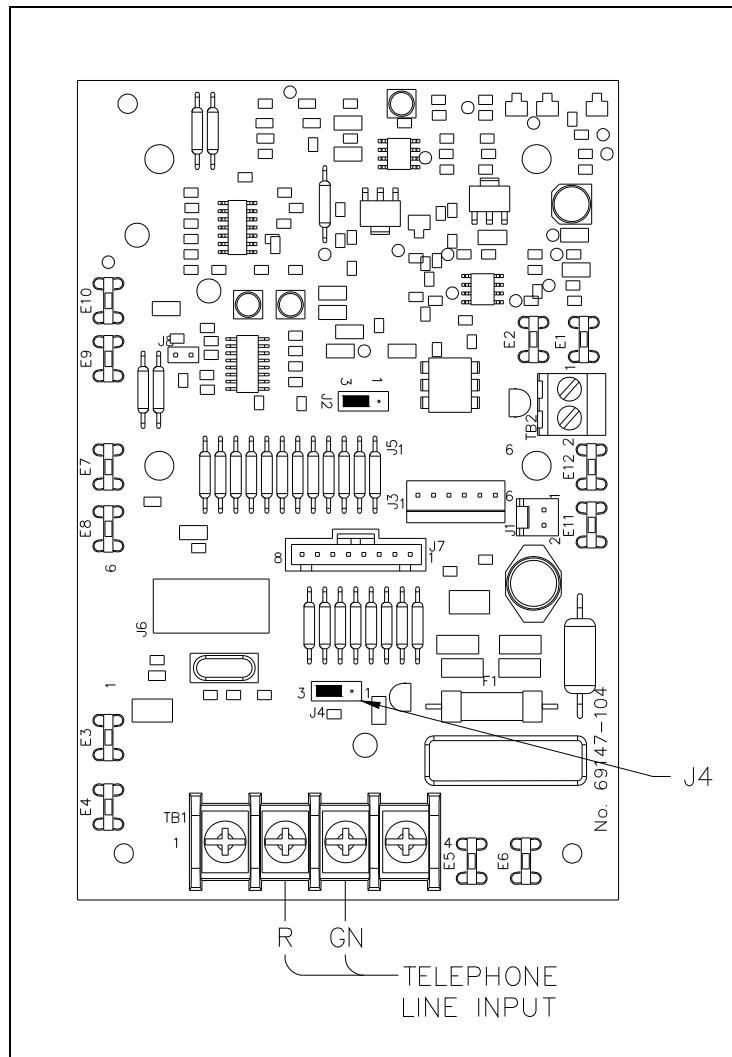

Figure 7. Main PCBA
3. Connect the incoming subscriber line or the telephone line suppressor (if applicable) to terminal block TB1 on the main PCBA when a ring relay PCBA is not present (see Figure 7)
The handset receiver volume control is factory set to default to its original (0 dB) setting upon hanging up the telephone. To save the volume control setting, move jumper J4, which is factory set at positions 2 and 3, to positions 1 and 2 (see Figure 7 for the location of jumper J4).